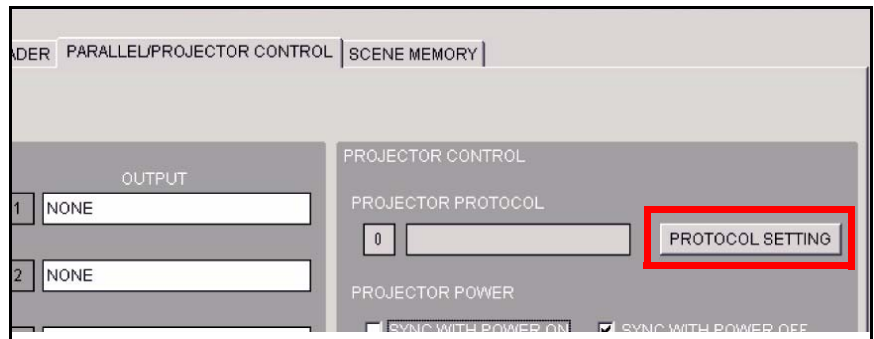

Figure 1
5. In the PARALLEL/PROJECTOR CONTROL tab, click PROJECTOR PROTOCOL. (See Figure 1.)